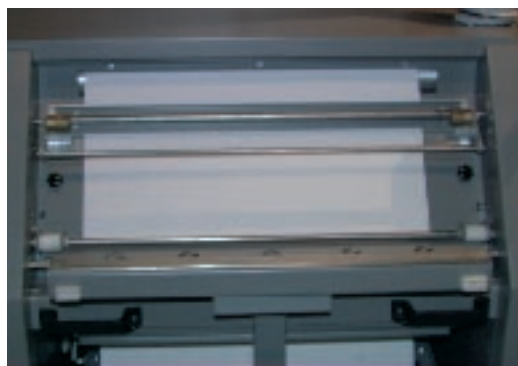

Figure 310. Threading Along the Guide Plate
13. Thread the print medium between the guide plate and the paper clamp, as shown in Figure 310.